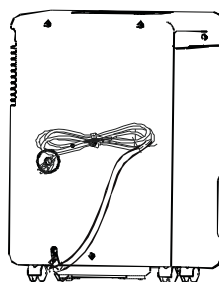

Fig. 12
- Wrap the cord and bundle it with the band(Fig.12) .